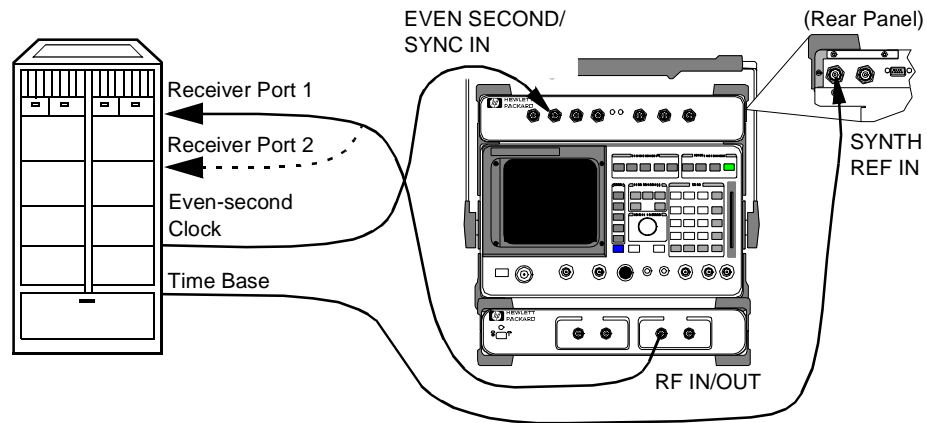

Figure 21
- 1 Make the equipment connections as shown in figure 21.